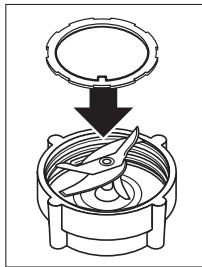

Figure 3
3. Place sealing ring over blade assembly. Carefully press and tuck sealing ring into locking groove (Figure 3).